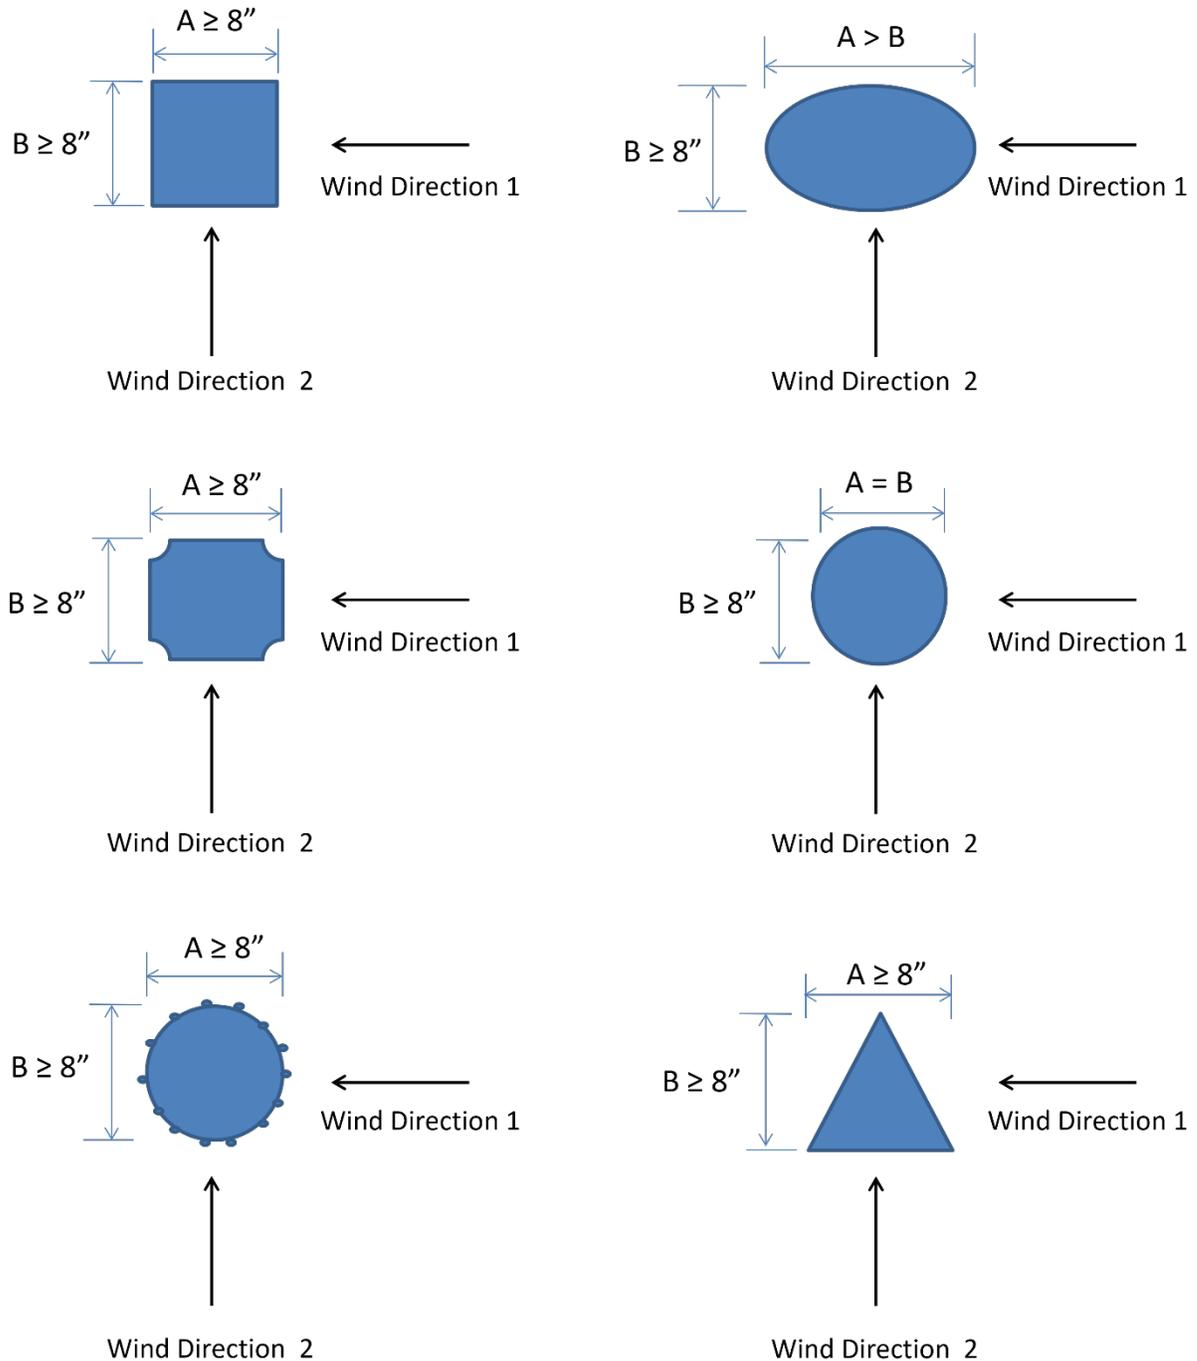

Figure 3: Examples of allowable cross-section shapes and wind directions that will be tested at the NSF-NHERI Wall of Wind at FIU.
- 2.6: Any shape above the lowest 1.5 inches of the provided base can be used as long as it always has a minimum **solid** width of 8 inches when viewed from any and all directions; see Figure 3 for shape examples.
- 2.7: All building models will be tested for two wind directions at 90 degrees to each other; see Figure 3 for example wind directions on various shapes. The building model will be prevented from sliding during the Wall of Wind tests by a small 0.75-inch-high stop that will be placed at the back and side edges of the gold base.